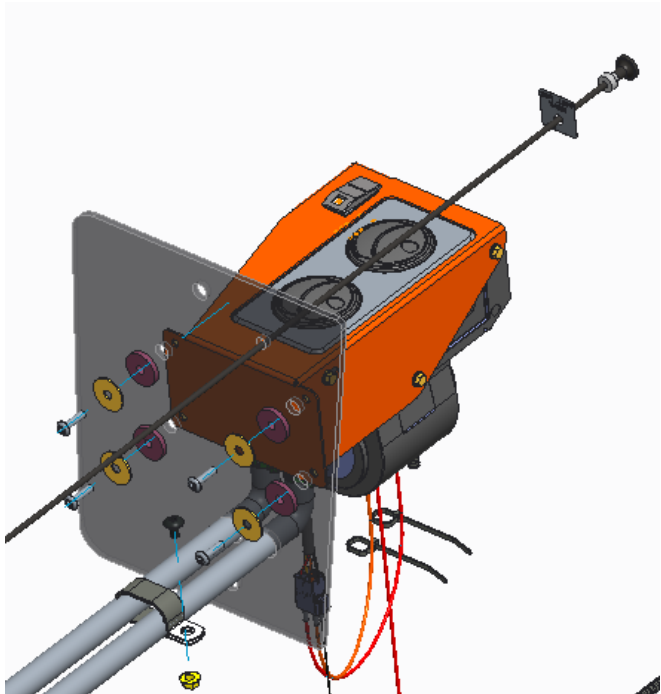

Figure 2B
6. Secure the heater unit onto the inside surface of the new window using (**Figures 2B and 3**);